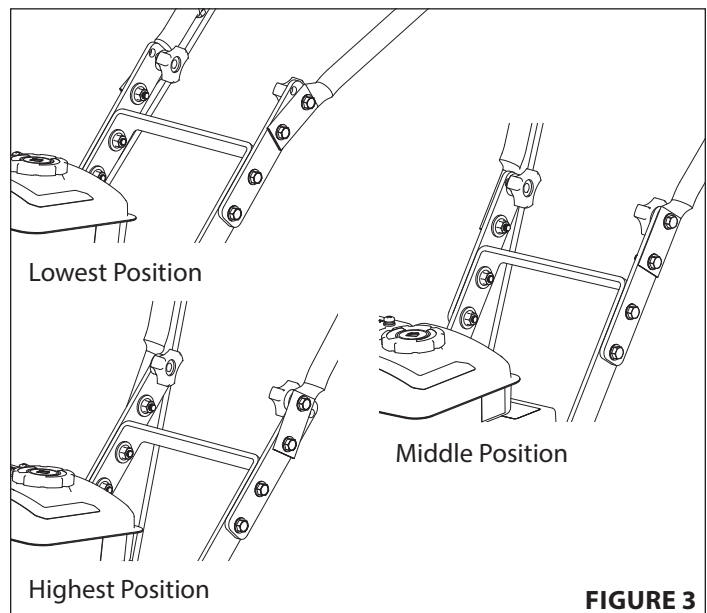

FIGURE 3
4. Assemble the upper handlebar onto the lower handlebar loop. Use the two (2) middle handlebar straps to connect the upper handlebar to the lower handlebar loop. Put the M8 x 25 bolts through the six lower bolt holes from the outside in. Put on six (6) washers and tighten with six (6) M8 nuts on the six (6) bolts. Tighten the two (2) M8 hand knobs on the two (2) M8 x 20 bolts in the upper most hole on each side of the handlebar. **(SEE FIGURES 1 AND 2)** The two (2) upper bolts and hand knobs can be used in one of three hole positions for handlebar height adjustability. **SEE FIGURE 3**